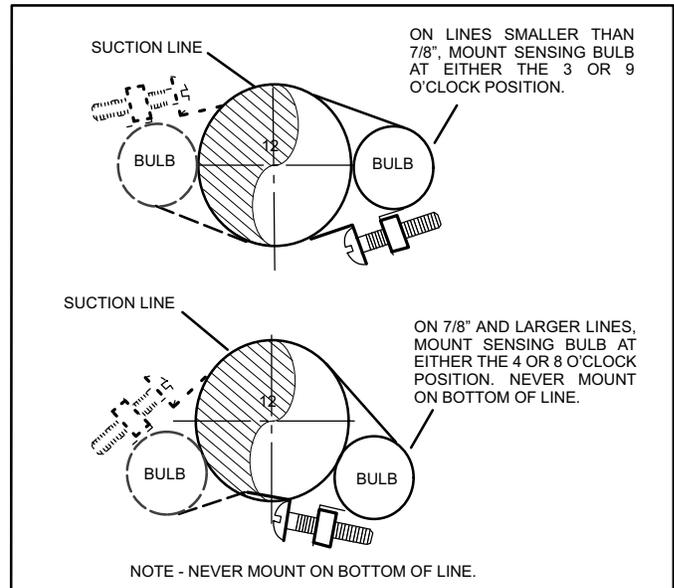

Figure 23. TXV Sensing Bulb Installation
6. Attach the suction line sensing bulb in the proper orientation as illustrated in figure 23 using the clamp and screws provided.